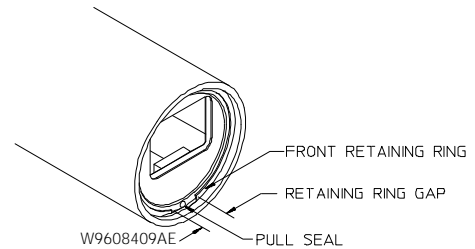

Figure 26: Positioning the Front Retaining Ring
2. Install the front retaining ring so the pull seal is centered in the retaining ring gap. See **Figure 26**.